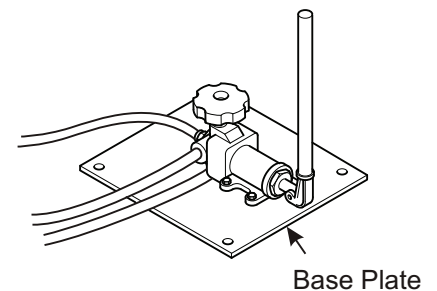

FIGURE 15c
- Stand - By Hand Pump (See Figure 15c)